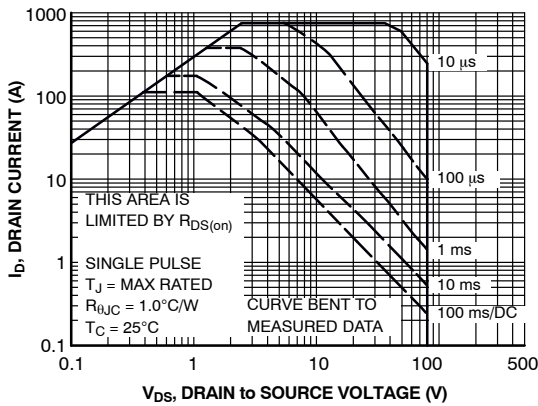

Figure 11. Unclamped Inductive Switching Capability
4. Pulsed I_D please refer to Figure 11 SOA graph for more details.